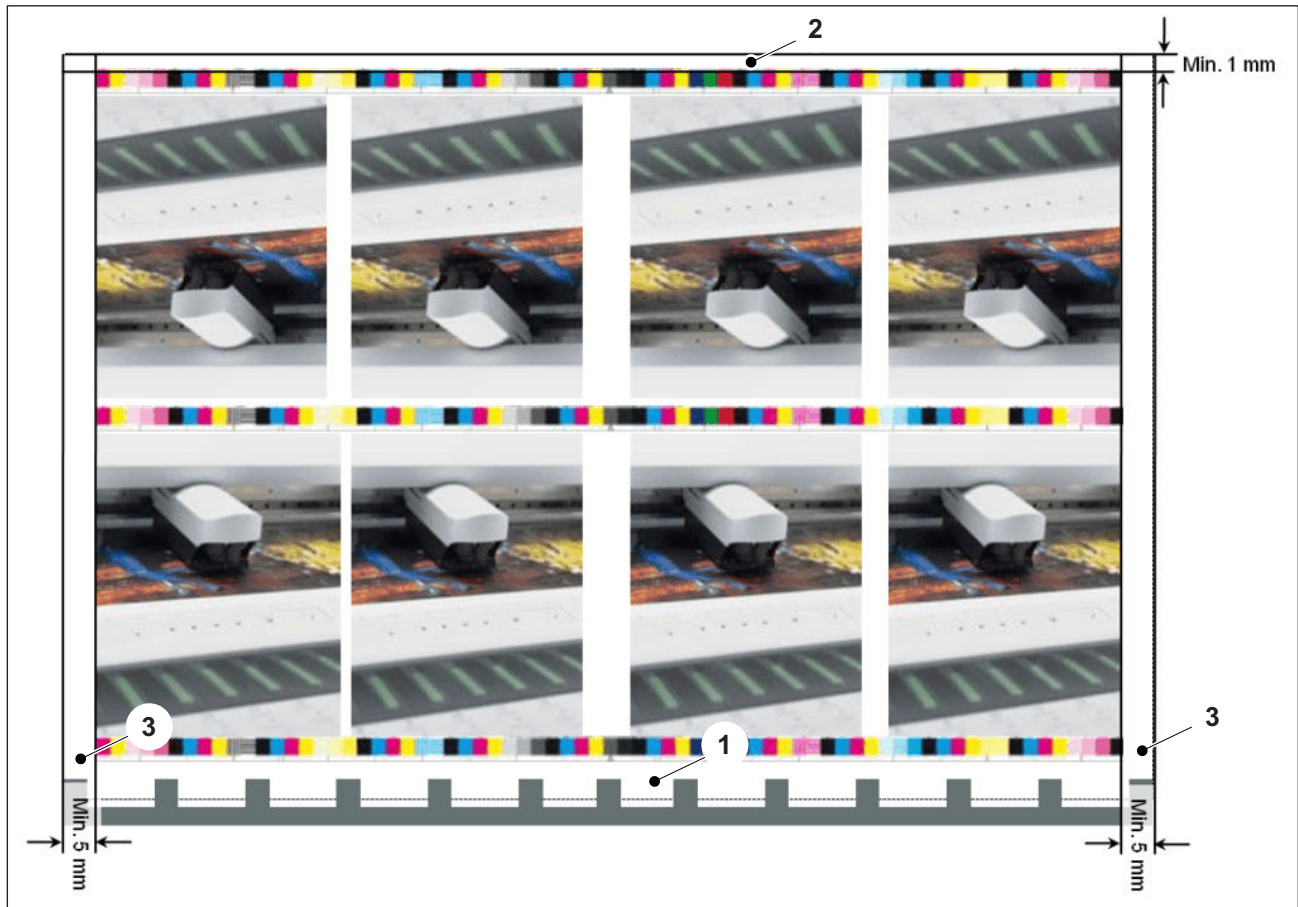

Fig. 23 Mounting Prinect Axis Control on Prinect CP2000 Center
- You can mount the quality control strip at any position you wish between the gripper margin (Fig. 23/1) and the rear edge of sheet (Fig. 23/2).
- In order to facilitate the automatic paper white measurement and detection of the quality control strip, there must be at least 5 mm of paper white between the lateral sheet edges and the start of the quality control strip (Fig. 23/3).